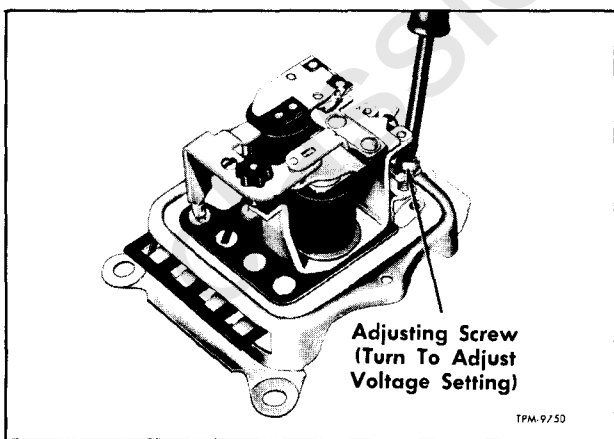

Figure 18—Adjusting Voltage Setting
b. Turn adjusting screw shown in figure 18, to adjust the voltage setting.